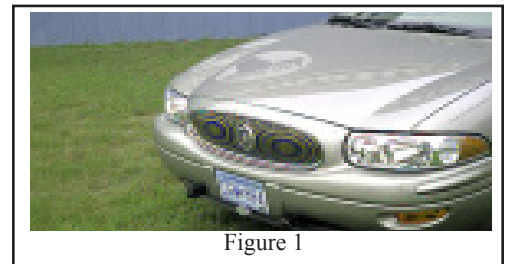

Figure 1
5. Center the baseplate on the bottom and front of the aluminum bumper. **See Figure 1.** Center punch one of the holes and drill it out to 1/2". Bolt the baseplate up to the bumper by inserting the bolt plate ((1/2 x 1 1/2) bolt plate (2 x 3) with wire into half inch hole and using the 1/2" Hex nut and lock washer. Double check to make sure that the baseplate is centered and drill and bolt the other bent brace that goes to the bottom of the bumper. Use Loctite on each bolt. Torque bolts according to the chart in the General Instruction Sheet.